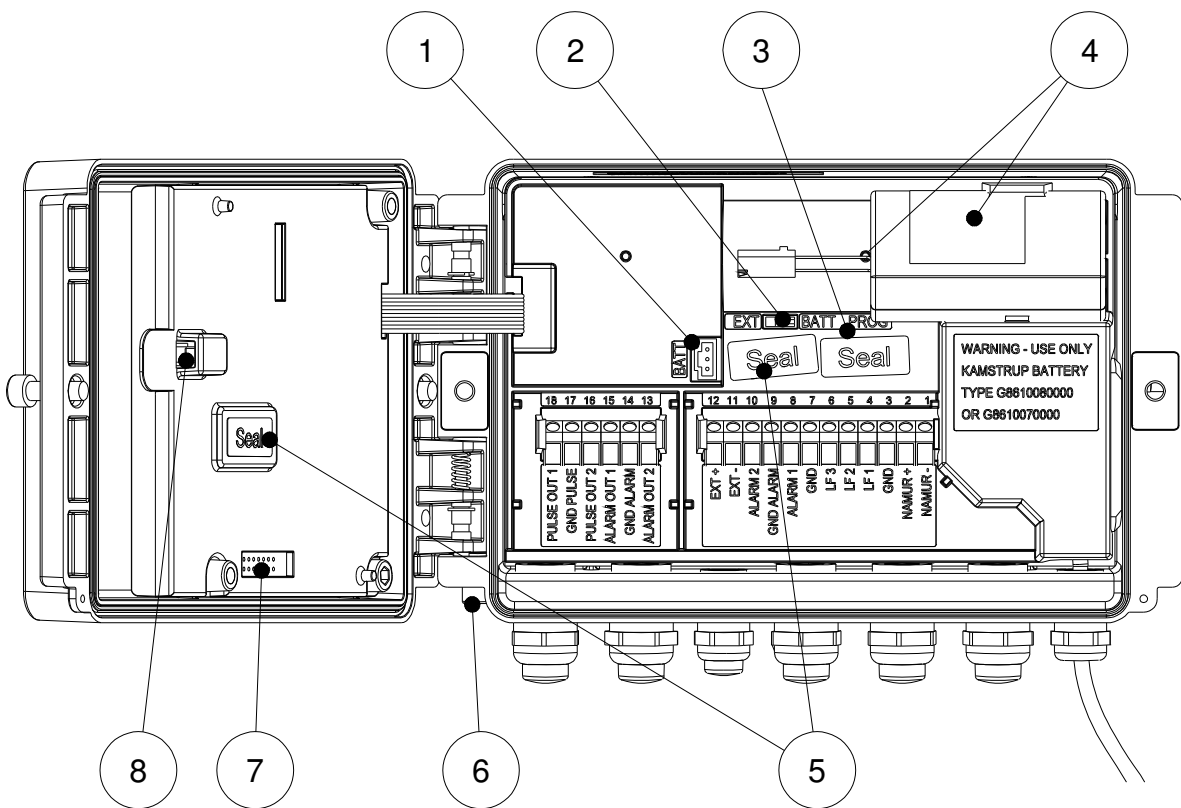

Figure 5. Interior view UNIGAS 300
- 7: Module connector with protective cap (PCB cover not shown in figure 5). Nothing but Kamstrup modules can be connected to his module connector. This module connector is retroaction-free, which means that manipulation of the module connector will not affect the calibration functions.